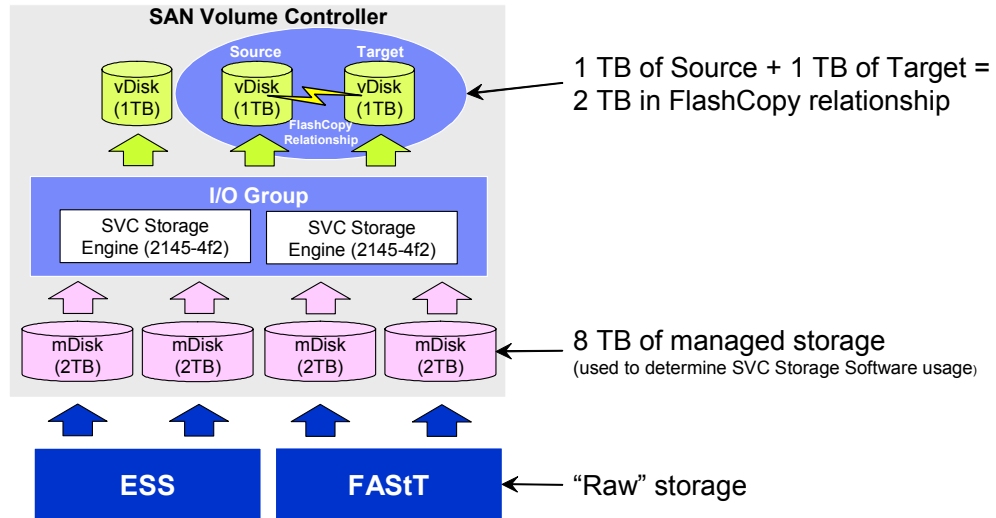

Figure 2-5 FlashCopy storage license
- The amount of virtualized storage that you want to FlashCopy: You may want to manage 8 TB of storage, but FlashCopy only 1 TB of storage. In this case, you need a 2 TB FlashCopy license since there is 1 TB of source and 1 TB of target FlashCopy volumes. See Figure 2-5.